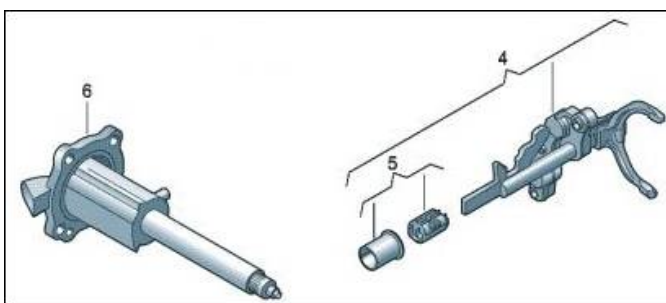

Figure 1. Shift fork and gear shift unit
4. Replace the 5th -6th gear shift fork and ball sleeve (*Item 4 and 5, Figure 1*) and the gear shift unit (*Item 6 Figure 1*) per instructions in *ELSA: Transmission*>> *Manual Transmission Internal Components*>> *34 Controls, Housing*>> *Disassembly and Assembly*>> *Transmission, Assembly Sequence AND 35 Gears, Shafts*>> *Disassembly and Assembly*>> *Shift Fork Group, input shaft*.